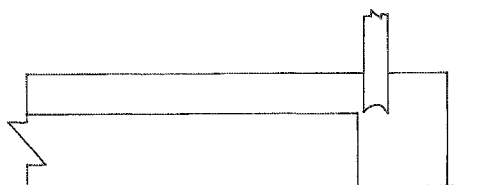

Fig. 4.26 Chisel free to be lowered.
4. Traverse the bed so that the chisel clears the timber when brought down to the depth of cut (**Fig. 4.26**).